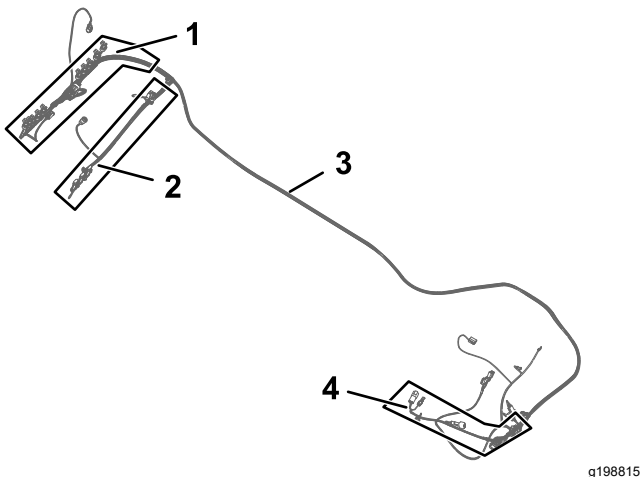
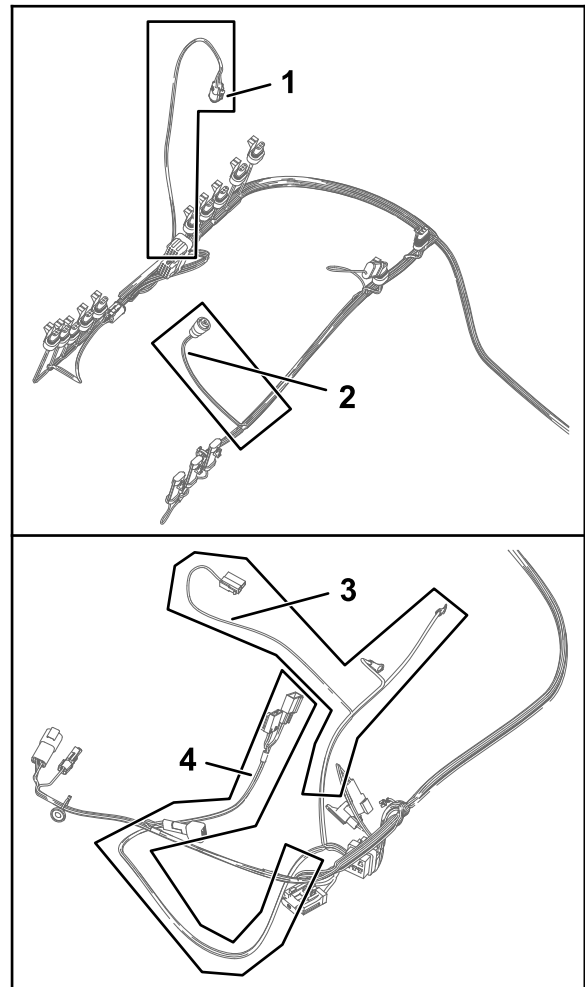

Figure 77
Figure 78
1. Locate the 84 cm (33 inch) wire-harness branch, 60 cm (23-1/2 inch) wire-harness branch, and 66 cm (26 inch) wire-harness branch of the kit wire harness (Figure 77 and Figure 78).